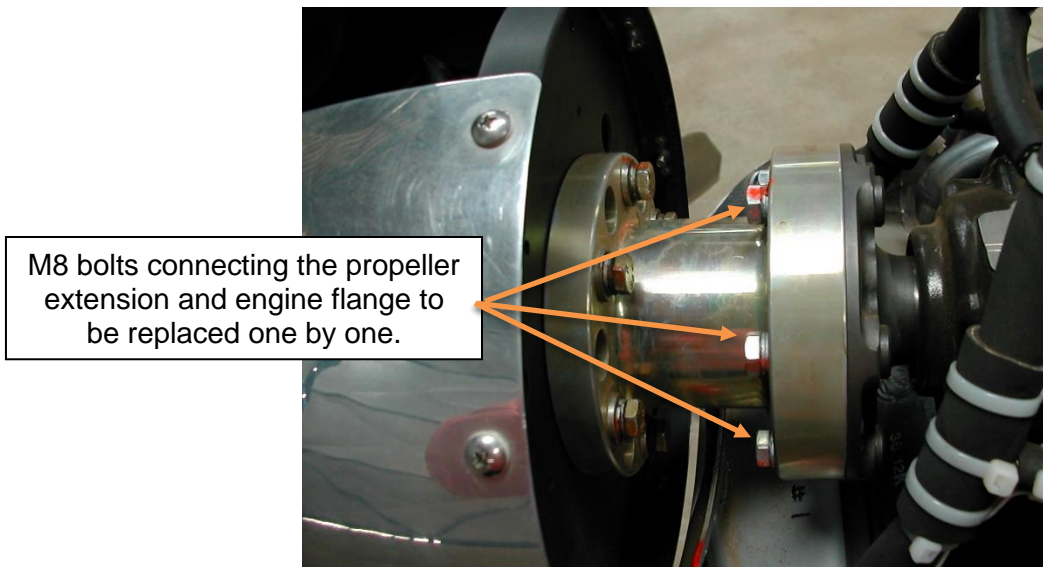

Figure 6: M8 bolts connecting the propeller extension and engine flange
- Step 3: The bolts that need to be replaced are the M8 bolts connecting the propeller extension and engine flange. Refer to Figure 6.